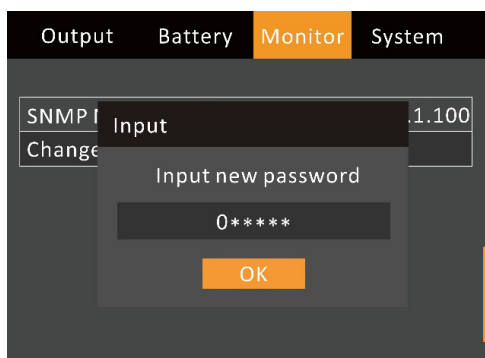

Figure 3-21 Inputting new password
4. Input the existing password, press the key to confirm it, then the system requires to input a new password. See Figure 3-21.